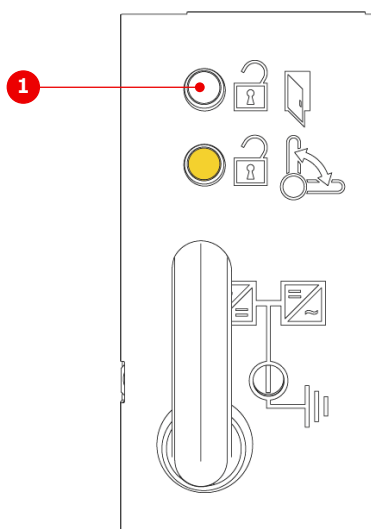

Figure 10–10 Testing the white lamp
**1.** To test the lamp, press its lamp cap (1 in Fig. 10–10).